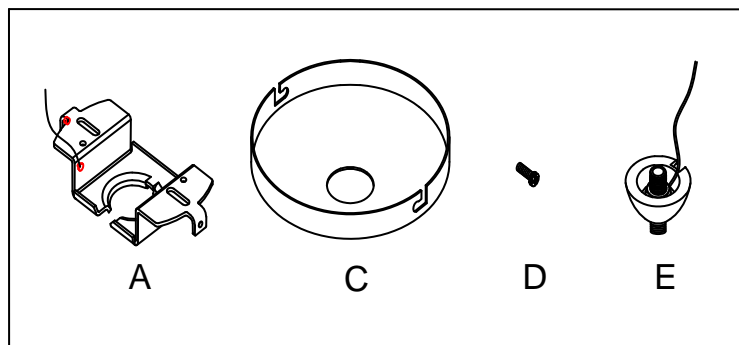

**Fig.2**
### SUGGESTED INSTALLATION (Fig. 2)
3. Attach the mounting plate (A) to the junction box using screws (B) as shown in **Fig. 2**.
4. Determine the desired hanging height and thread rods (F1, F2, F3) to the Socket Cup (G). Pass the wires carefully through each rod as you assemble.
5. Place the canopy (C) over the rods (F) and thread the hanger ball (E) to rods (F). Please remove the nipple if installing with one 6" rod only.
6. Install the fixture body into the mounting plate (A) by tilting at a slight angle so that the hanger ball (E) slips into the mounting plate (A) as shown. Align the notch in the hanger ball (E) to the tab on the mounting plate (A) to prevent the fixture from turning.